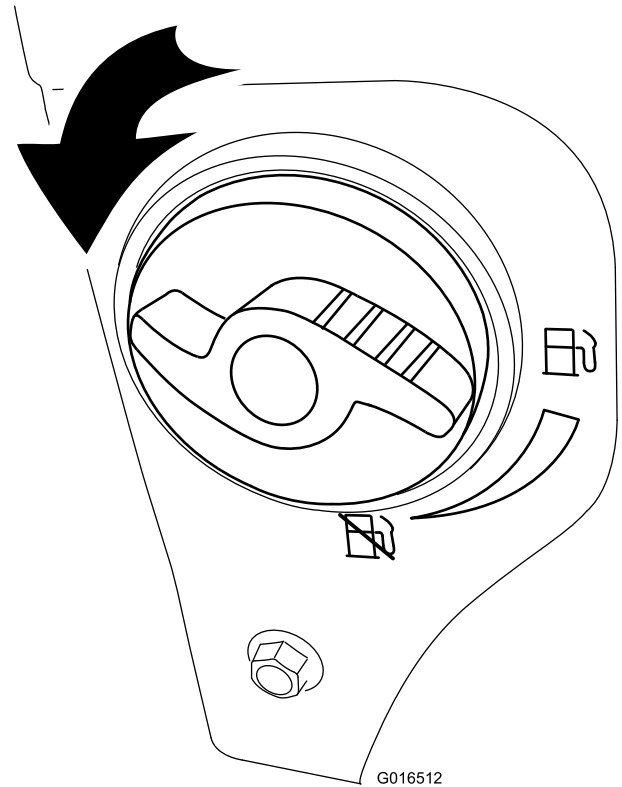

Figure 26
2. Turn the fuel shutoff valve 1/4 turn counterclockwise to open it (Figure 26).